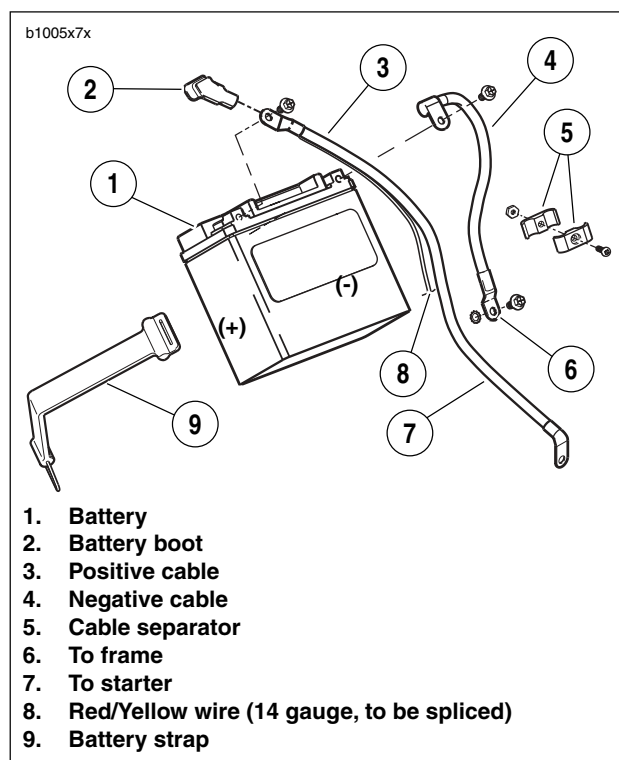

Figure 7-35. Battery
1. See Figure 7-35. Disconnect negative and positive cables from battery, negative cable first.
- a. See Figure 7-35. Positive battery cable runs from starter to positive battery terminal.